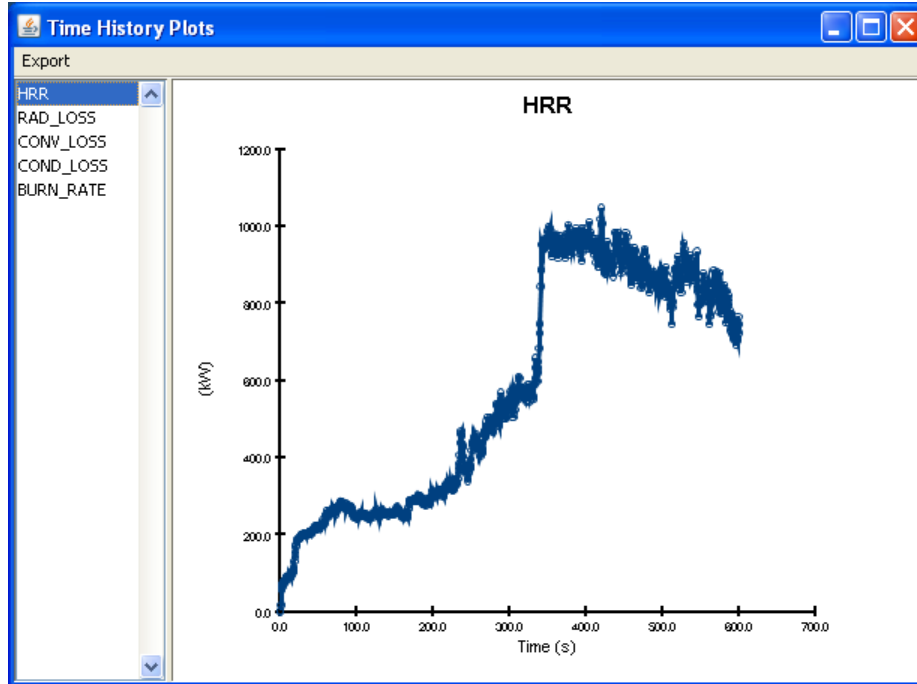

Figure 6.13. Heat release rate
2. A dialog will appear showing a list of 2D result files. Select **roomfire_hrr.csv** and click **Open** to view the heat release rate as a function of time, Figure 6.13.